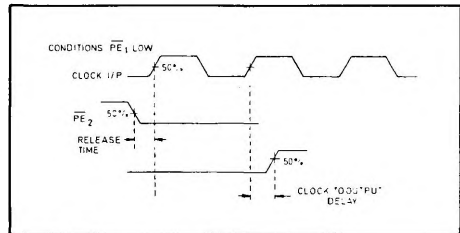

Fig. 4 Release timing diagram
- Release time is defined as the minimum time that can elapse between a H→L transition of a control input and the next L→H clock pulse transition to ensure that the ÷6 mode is forced by that clock pulse (see Fig. 4).